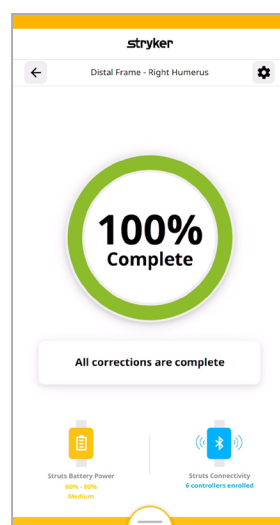

Figure 51
- The patient then waits until the next scheduled correction to repeat this adjustment process until the correction plan is complete. **(Figure 51)**